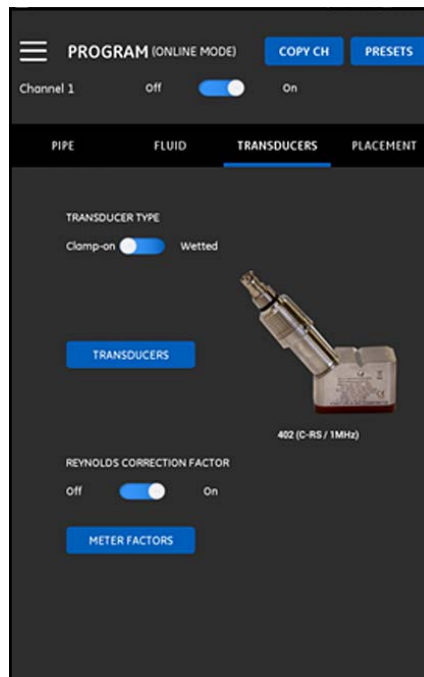

Figure 86: The TRANSDUCERS Menu
An example of this menu is shown in *Figure 86* below. See the following sub-sections for the options available in programming the transducers.
To program your transducer parameters, refer to *Figure 86 on page 58* and complete the following steps:
2. If you select standard transducer from the drop down, you will need to enter only the WEDGE TEMPERATURE (see *Figure 86*). But if you select other as your transducer model, few additional parameters will appear on the screen (see *Figure 87*) and you must edit this data with the correct specific information.
The REYNOLDS CORRECTION FACTOR can be set to either On or Off (see *Figure 86 on page 58*). This factor corrects the fluid velocity measured across a diametrical path so that it more accurately represents the average fluid velocity across the entire cross-sectional area of the pipe. The REYNOLDS CORRECTION FACTOR should be turned On for all clamp-on measurements.
To program the METER FACTOR, refer to *Figure 86 on page 58* and complete the following steps: